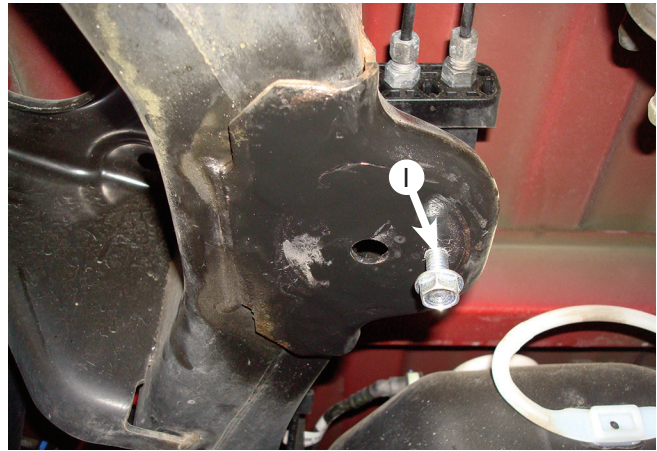
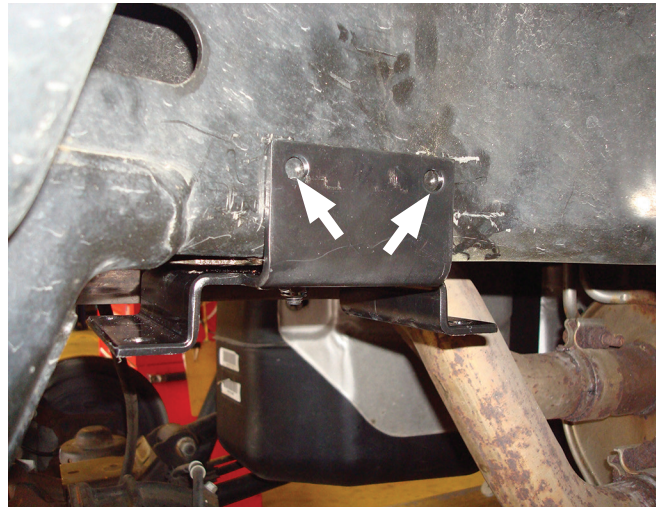

Fig. 11
Fig. 12
11. With the socket head bolt in the hole, push the flange against the side of the frame (Fig. 11) and mark the existing hole under the frame with a paint marker (Fig. 12).